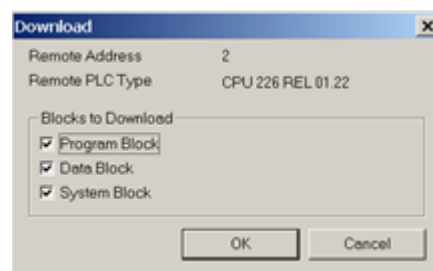

Figure 15: Download Options.
16. Select all options and click **OK** (Figure 15 below):